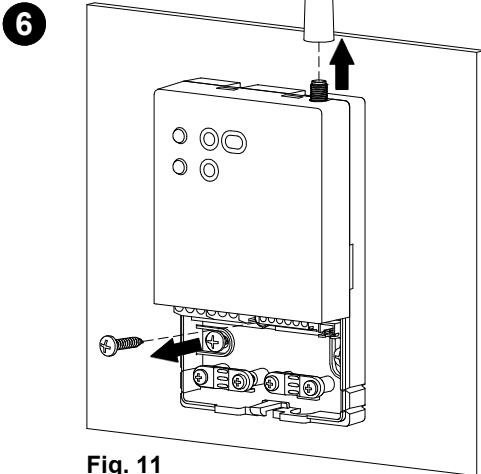

Fig. 11
- ⑥ Remove the antenna and unscrew the screw blocking the cover onto the base (Fig. 11).